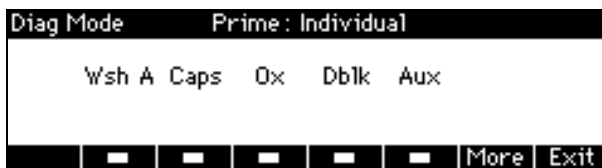

Figure 4-6 Diagnostic Mode Prime Individual Screen
3. Select Column 1. The Diagnostic Mode Prime Individual screen is displayed (Figure 4-6).